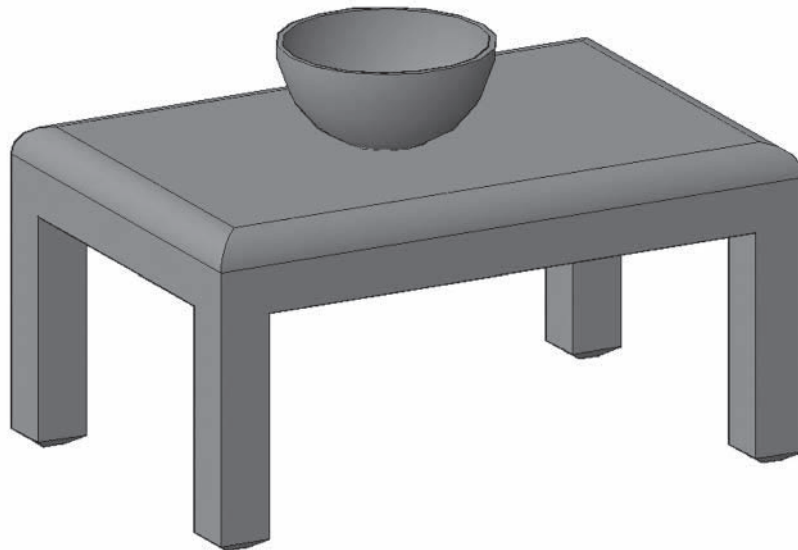

Fig. 45-11
Let's create the table shown in Fig. 45-11 using the methods we've used in previous chapters. We will apply the **CHAMFER** and **FILLET** commands to make the filleted and beveled edges.
The bottom of the legs should now look similar to those in Fig. 45-11 on page 593.
The table should look very similar to the one in Fig. 45-11.
We will make a sphere and use the **SLICE** and **SHELL** commands to create the bowl shown on the table in Fig. 45-11.
19. Move the bowl to rest on the tabletop, as shown in Fig. 45-11 on page 593. You will need to view the model from several views to be sure you have moved the bowl correctly.